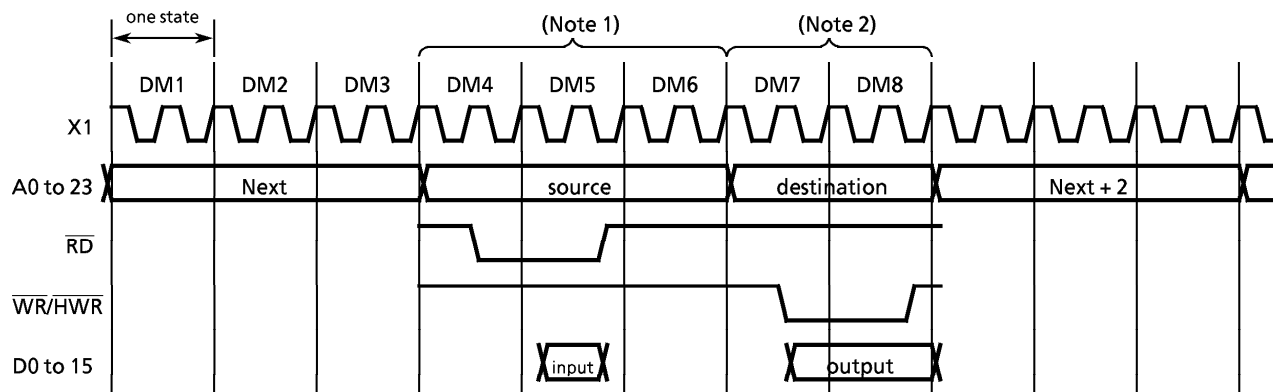

Figure 3.3.2 (1) Micro DMA Cycle Diagram
Figure 3.3.2 (1) shows the micro DMA cycle for 1-word transfer in transfer destination address INC mode (the same apart from counter mode). (The conditions for this cycle are based on a 16-bit bus, 0 waits, and transfer source/transfer destination addresses both even-numbered values.)